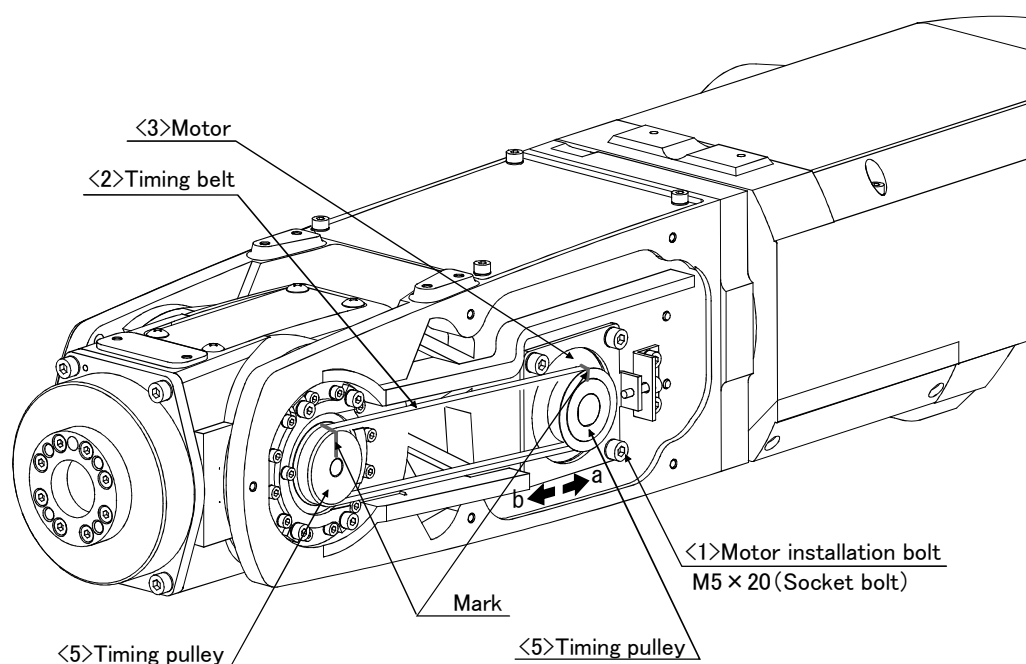

Fig.5-4 : Inspection, maintenance and replacement of J5-axis timing belt
- 3) Move the motor <3> in the directions of the arrows shown in Fig. 5-4, using the tension adjustment screw while checking the tension of the timing belt <2>. Lightly pushing the center of the belt with your finger (approximately 2 N), move the motor to the position where the belt flexes about 2.5 mm.
- 1) Fig. 5-4 shows the methods for inspecting, adjusting and replacing the timing belt.
- 5) Make marks on the timing belt <2> and timing pulleys <4> and <5> with a felt-tip pen as shown in Fig. 5-4 so that the engagement of the timing belt <2> and timing pulleys <4> and <5> does not deviate.